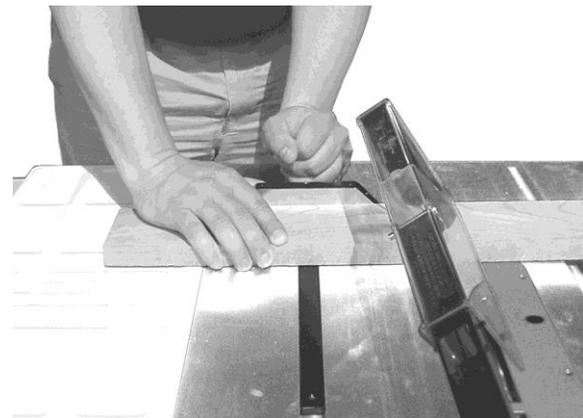

Figure 8-11
**Bevel cut** – A bevel cut is a special type of operation where the saw blade is tilted at an angle less than 90 degrees to the table top (Figure 8-11). Operations are performed in the same manner as ripping or crosscutting, except the fence or miter gauge should be used on the right-hand side of the blade to provide added safety in avoiding a binding action between blade and table top. When beveling with the miter gauge, the workpiece must be held firmly to prevent creeping.